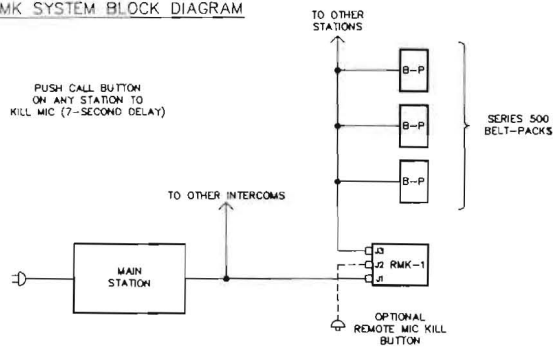

FIG. 2:
**J2:** RMK External Control: 3-pin XLR male; use with external pushbutton to provide instantaneous RMK (use any commercially available momentary pushbutton). See Figure 2: Wiring Diagram.